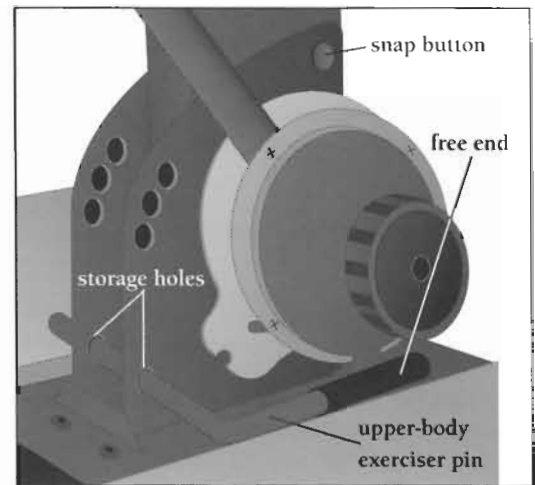

Figure 9
2. If the arm exerciser poles are locked in position, remove the upper-body exerciser pin and store it in the storage holes at the bottom of the upright tube (Figure 9). Hold onto the arm poles with one hand while you remove the pin.
4. Hold the upright tube in one hand and depress the snap buttons on both sides of the upright tube (Figure 9). They are located near the bottom of the tube.